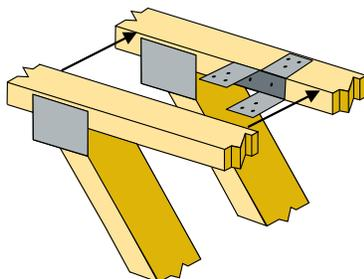
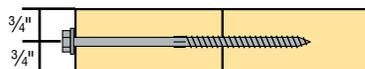

FIGURE B9-13
FIGURE B9-14
- ✓ Multi-ply Parallel Chord Trusses have special Connection requirements due to the 3x_ or 4x_ configuration and shall be joined together according to the Truss Designer's specifications. Connection options typically include metal framing anchors (Figure B9-13), Structural Sheathing, metal gussets and proprietary high-strength screws (Figures B9-14 and 15).